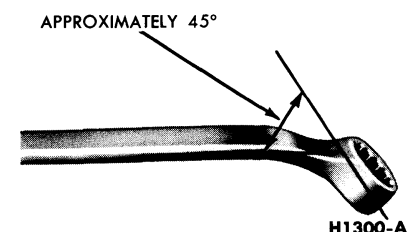

FIG. 5—Wrench for Bleeding Brake
1. Position a bent 3/8-inch box wrench on the bleeder fitting on the right rear brake wheel cylinder (Fig. 5). Attach a rubber drain tube to the bleeder fitting. **The end of the tube should fit snugly around the bleeder fitting.**
3. Position a 3/8-inch box wrench on the bleeder fitting on the right rear brake wheel cylinder (Fig. 5). Attach a rubber drain tube to the bleeder fitting. **The end of the tube should fit snugly around the bleeder fitting.**